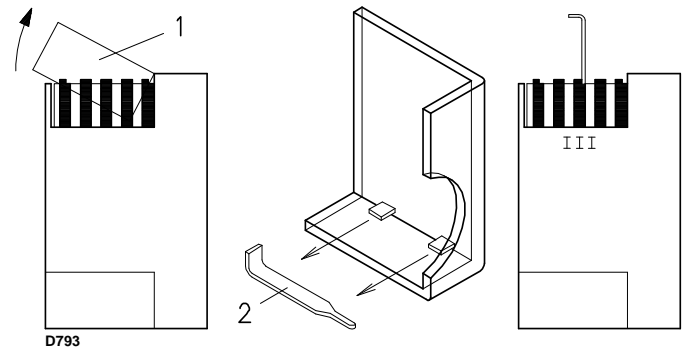

Fig. 27
Cams I - II - IV of the servomotor do not require adjustment. Only cam III may need adjusting. In this case, remove the cover 1)(Fig. 27), which clicks in and out, take the key 2) out and insert it in the notch on cam III.